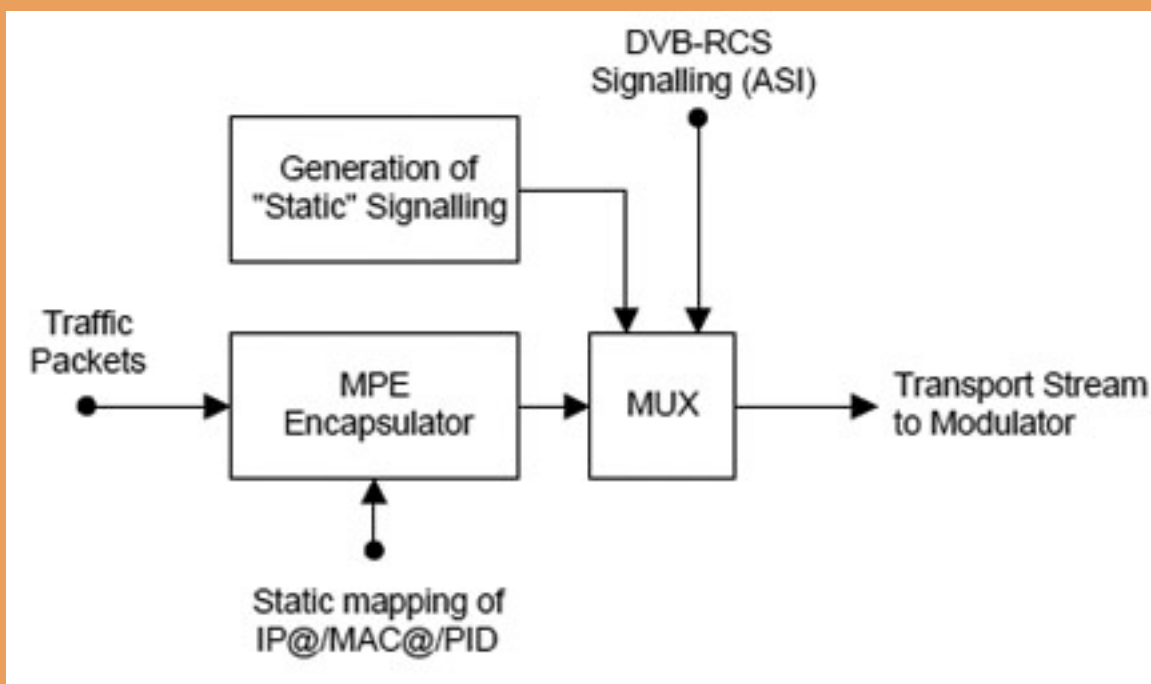

Figure 4: Gateway Architecture for DVB-S and DVB-S2 CCM Systems
— In current systems, the forward link gateway (IP encapsulator, IPE) implements the functions shown as a conceptual block diagram in *Figure 4* on the next page. Incoming IP traffic packets are encapsulated over MPEG packets using the MPE protocol. This is the primary function of the gateway. In addition, the
encapsulator generates the DVB *Service Information (SI)* signaling “tables” describing the characteristics of the network and the physical organisation of the transport streams. Encapsulators optimized for DVB-RCS networks have expanded this table generation feature to produce a number of tables that are specific to this application. These tables are relatively static; they describe top-level characteristics of the system and the return link air interface. One of the few differences between DVB-S and DVB-S2/ CCM is in the format of these tables; there are slight differences between DVB-S and DVB-S2 forward links in this respect. A further function of encapsulators for DVB-RCS is the inclusion of an MPEG multiplexer port. This port allows the inclusion in the transmitted stream of the more “dynamic” signaling. This signaling contains all real-time information needed for operation of the terminals, notably return link capacity assignments and correction messages for timing, power and transmit frequency. The arrangement shown in *Figure 4* on the next page is also applicable to systems employing DVB-S2 in CCM mode. Aside from the above-mentioned differences in the SI tables (and the much better physical layer performance), there is no fundamental difference between the operation of DVB-S and DVB-S2/ CCM.